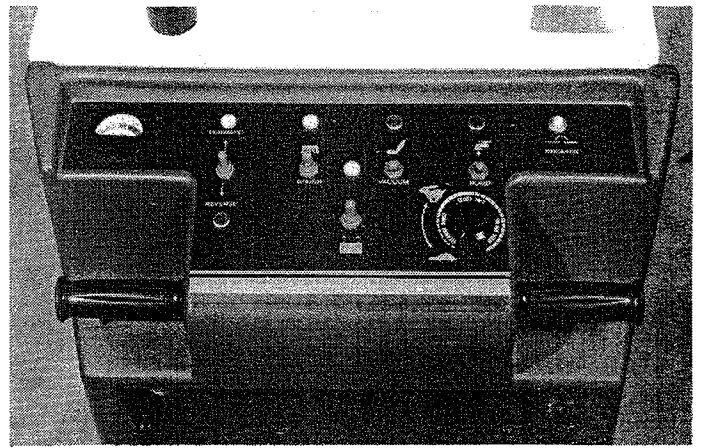

FIG. 4c
3. Move brush switch to the "ON" position. (See Figure 4c.)